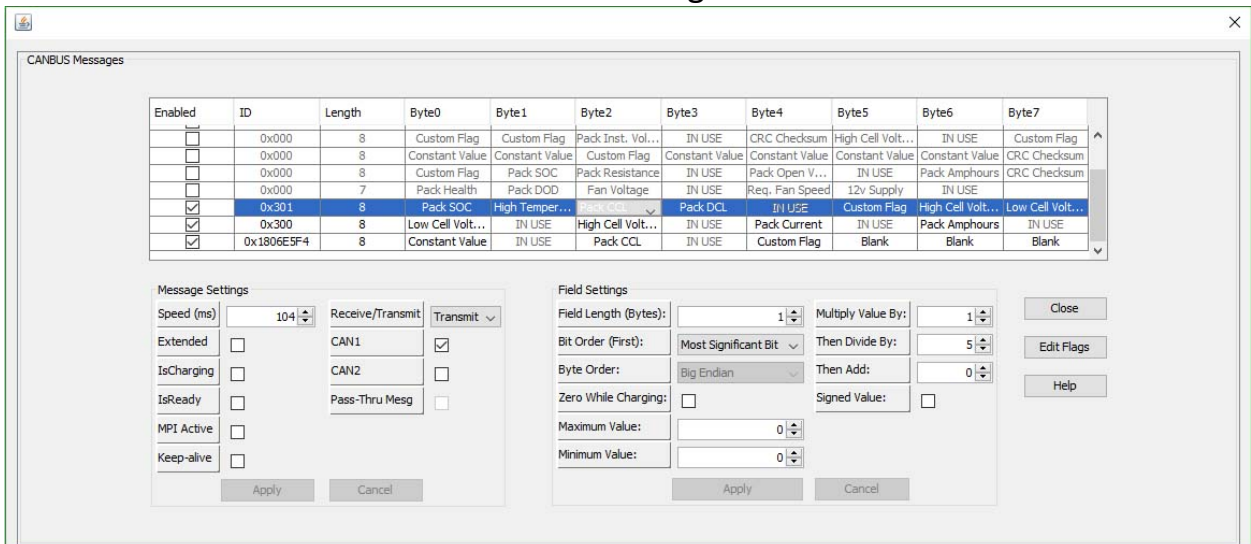

Fig. 26
9. Make sure that the Message and Field Settings for **PACK CCL** are the same as in (Fig 26).